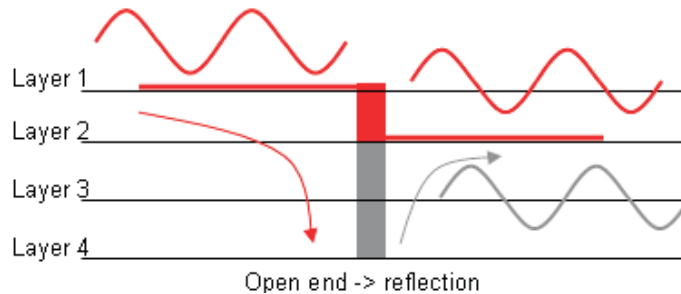

Figure 16. Reflection Caused by Stubs in a Via
In Figure 16, a four-layer stackup can be seen. The signal changes from layer 1 to layer 2. The via passes through all four layers. Thus, we get the structure of an open-end transmission line with no termination and thereby a 100% reflection. Due to the length of the stub, a delay also occurs. The worst case is now that the two signals (original one → red and reflected one → gray) on layer 2 have a phase shift of 180°, and so they cancel each other. The phase shift is due to the delay which arises from the stub length. The time delay is twice the stub length divided by the signal speed. To avoid this problem, use blind vias or buried vias.
- Consider stubs created by vias. If necessary, use blind vias or buried vias (see Figure 16).